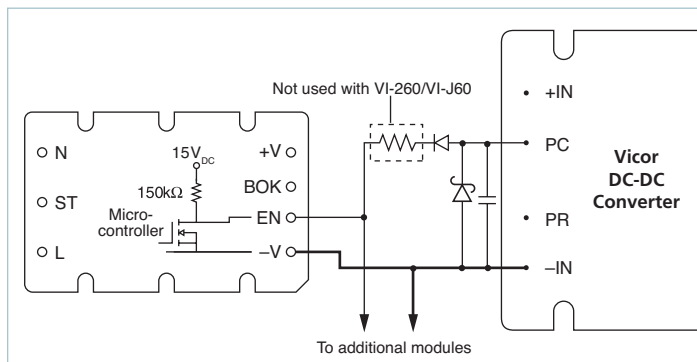

Figure 11 — Enable (EN) function; see Figure 8 for details
| Off-state voltage | 12 | 14 | 16 | V_{DC} | 150k Ω internal pull up to 15 V_{DC} (Figure 11) |
Enable (EN) Pin: (see Figure 11) The Enable pin must be connected to the GATE-IN or PC pin of all converter modules to disable the converters during power-up. Otherwise, the converters would attempt to start while the hold-up capacitors were being charged through an un-bypassed thermistor, preventing the bus voltage from reaching the thermistor bypass threshold thus disabling the power supply. The Enable output (the drain of an N channel MOSFET) is internally pulled up to 15V through a 150kΩ resistor.